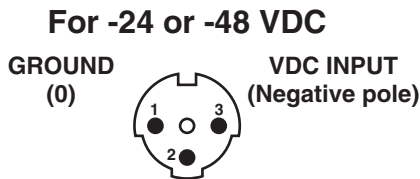
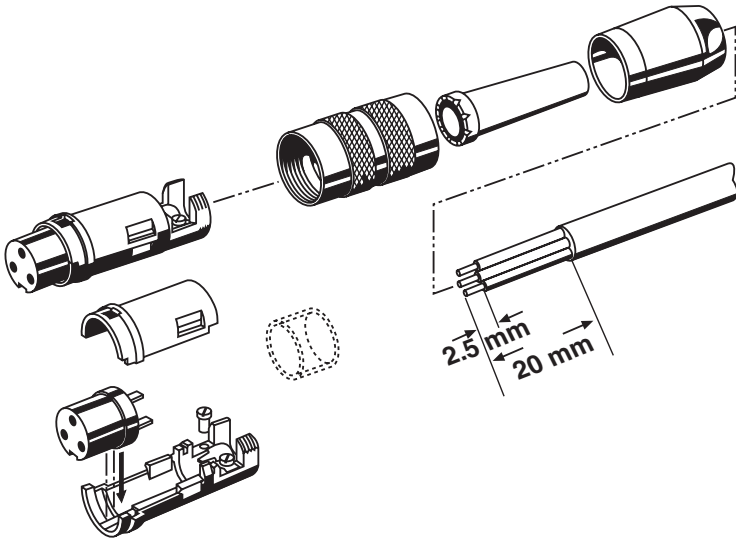

Figure B-2. Cable connector (female) voltage polarity for -24 or -48 VDC.
Figure B-4. Cable connector assembly.
- If not, connect the wires of your power-supply cable to the supplied cable connector, according to the voltage polarity shown below in **Figures B-2** and **B-3**. Note that the solder side of the connector is shown. Refer to the illustration of the cable connector assembly (**Figure B-4**) for assistance.